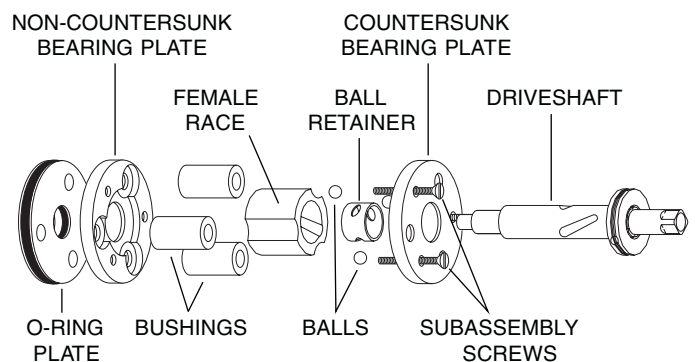

**Figure 8:** Pawl/ratchet orientation
5. Reinstall the pawls. (They will usually go in easier from the inside.) The groove on the outside end of the pawl must align with the spring retaining groove in the driveshaft, but take care that they are positioned to yield the relationship to the ratchet illustrated in **Figure 8**.